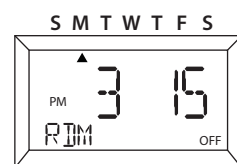

Figure 10
- To activate the random feature, press **RANDOM**. The screen will change from "AUTO" to "RDM," indicating that random mode has been activated. See Figure 10.